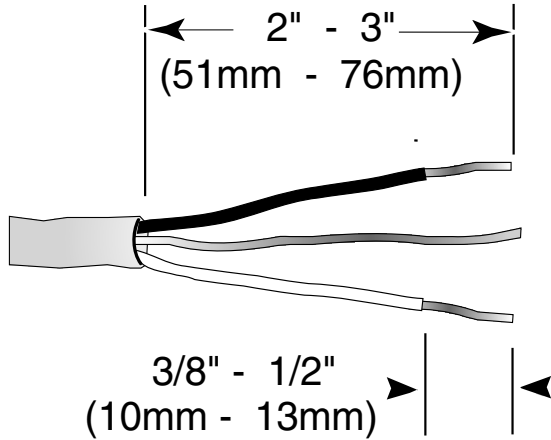

Figure 6
2. Remove 2" to 3" (51 - 76mm) of the outer casing of the household or field supply wiring as shown in **Figure 6**. Remove 3/8" to 1/2" (10 - 13mm) of the insulation from each wire as shown in **Figure 6**.